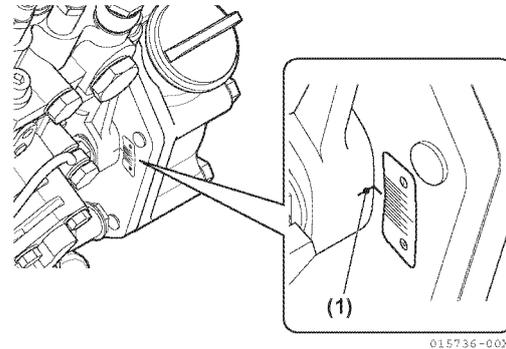

**Figure 6-72**
- If the difference between the timing index numbers is a positive (+) number, the fuel injection pump mounting position must be advanced (**Figure 6-72, (2)**) (rotated away from the engine) as compared to the “standard mark” (**Figure 6-72, (1)**) by the calculated positive (+) amount, adjust the fuel injection pump to the calculated value.
- If the difference between the timing index numbers is a negative (-) number, the replacement injection pump must be retarded (**Figure 6-72, (3)**) (rotated toward the engine) by the calculated negative (-) amount.
The above calculated difference indicates that the replacement fuel injection pump is to be installed at +0.5° (advanced) from the “standard mark” (**Figure 6-72, (1)**) on the timing sticker.